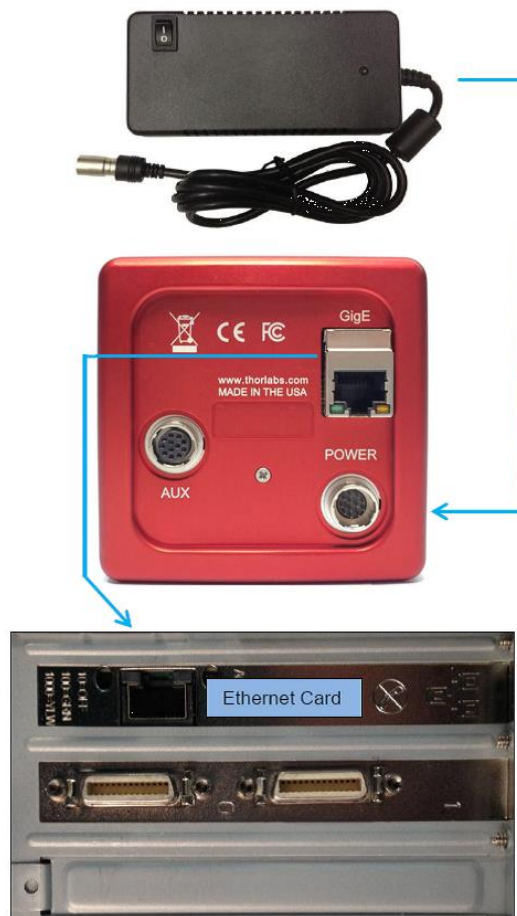

Figure 3 **Diagram of Connectors on GigE configuration**
- *If you are utilizing a USB 3.0 Cable:* Connect one end of the USB 3.0 cable into the camera port labeled “USB”. Connect the other end into a USB 3.0 “SS” port on your computer. See Figure 3. **For a description of the status LEDs on the USB rear panel, please see section 5.1.**